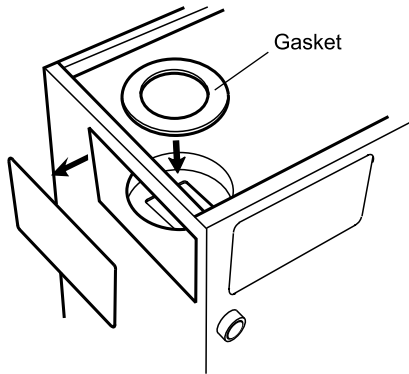

Fig. 19
- 3 Place the circular fibre gasket into the boiler flue spigot. see Fig. 19.